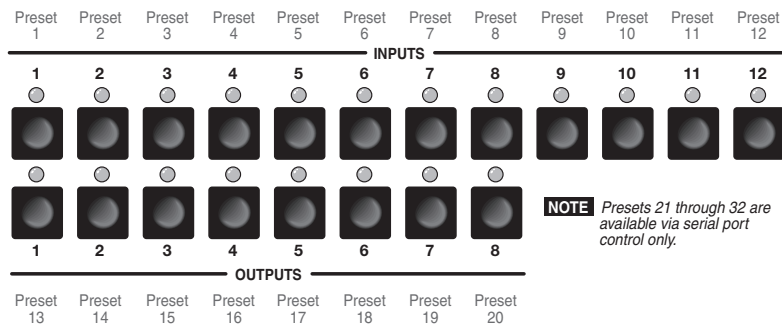
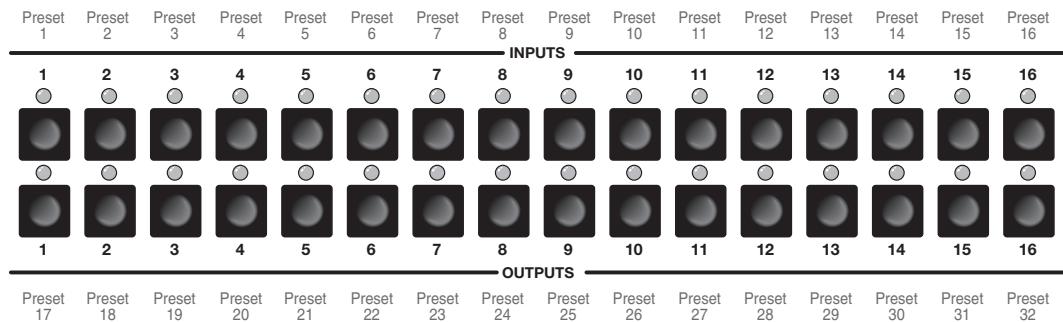

Figure 3-32 — Preset locations, MVX 128 VGA A
Figure 3-33 — Preset locations, MVX 1212 VGA A, MVX 168 VGA A, MVX 1616 VGA A
- Figure 3-32 shows the presets associated with the various input and output buttons for the MVX 128 VGA A. Figure 3-33 shows the presets associated with the various input and output buttons for the MVX 1212 VGA A, MVX 168 VGA A, and MVX 1616 VGA A.